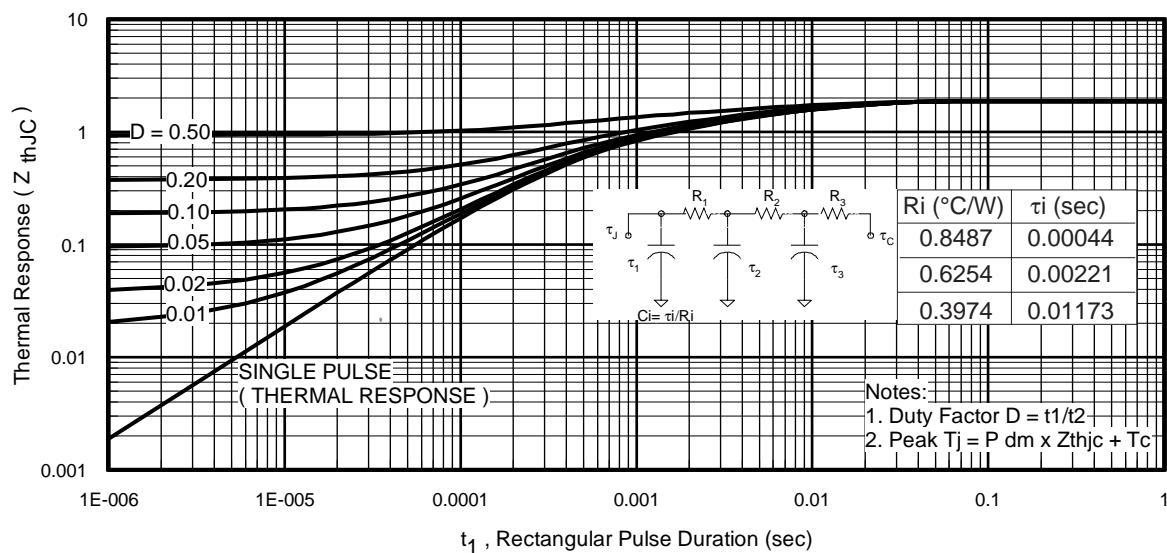
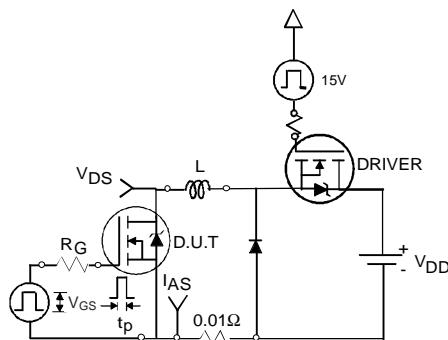

Fig 11. Maximum Effective Transient Thermal Impedance, Junction-to-Case
Fig 12a. Unclamped Inductive Test Circuit
- ① Repetitive rating; pulse width limited by max. junction temperature. (See fig. 11).
- ② Limited by $T_{J\max}$, starting $T_J = 25^\circ\text{C}$, $L = 0.18\text{mH}$, $R_G = 25\Omega$, $I_{AS} = 31\text{A}$, $V_{GS} = 10V$. Part not recommended for use above this value.
- ③ $I_{SD} \leq 31\text{A}$, $di/dt \leq 840\text{A}/\mu\text{s}$, $V_{DD} \leq V_{(\text{BR})\text{DSS}}$, $T_J \leq 175^\circ\text{C}$.
- ④ Pulse width $\leq 1.0\text{ms}$; duty cycle $\leq 2\%$.
- ⑤ $C_{oss \text{ eff.}}$ is a fixed capacitance that gives the same charging time as C_{oss} while V_{DS} is rising from 0 to 80% V_{DSS} .
- ⑥ Limited by $T_{J\max}$, see Fig.12a, 12b, 15, 16 for typical repetitive avalanche performance.
- ⑦ This value determined from sample failure population. 100% tested to this value in production.
- ⑧ This is applied to D²Pak, when mounted on 1" square PCB (FR-4 or G-10 Material). For recommended footprint and soldering techniques refer to application note #AN-994.
- ⑨ R_θ is rated at T_J of approximately 90°C .
3. Equation below based on circuit and waveforms shown in Figures 12a, 12b.
- $Z_{thJC}(D, t_{av})$ = Transient thermal resistance, see figure 11)